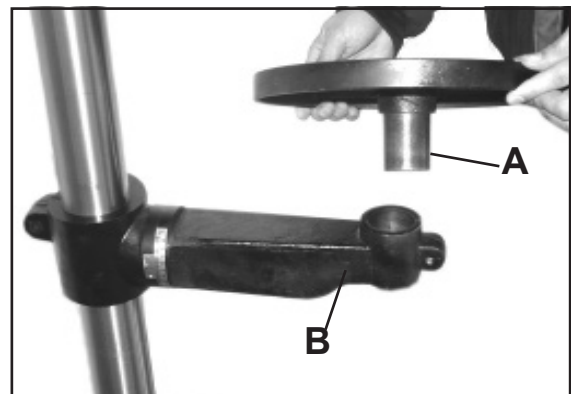

Figure 15
2. Insert the table post (A-Fig.15) into the table support bracket (B-Fig.15) as shown.